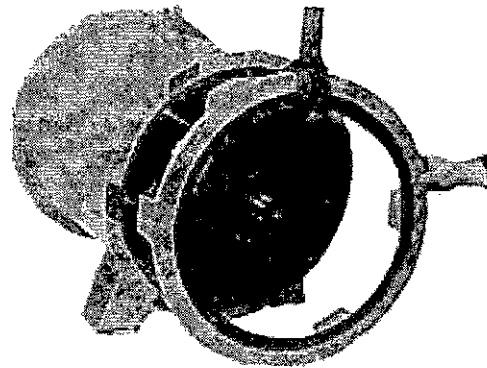

Figure 6-55
3. For single bearing generators, slide the SAE adapter over the fan and secure to the main stator and frame assembly with cap screws torqued per section 12. (Figure 6-55 and 6-56.) It may be necessary to raise the rotor assembly slightly to allow the mounting of the SAE adapter.